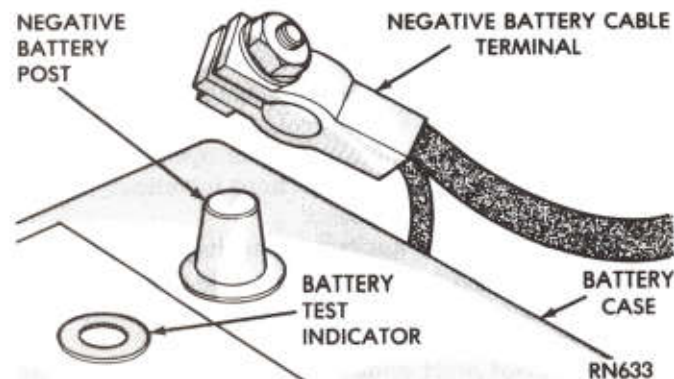

Fig. 5—Removing Negative Battery Cable
- (1) Before starting any tests make sure vehicle has a fully charged battery. Test and procedures on how to check for a fully charged battery are shown in "Battery" section of this manual.
- (2) Turn Off ignition switch.
- (3) Disconnect negative battery cable (Fig. 5).
- (4) Disconnect alternator output wire from alternator "Bat" terminal.
- (5) Connect a 0-100 amps minimum range scale D.C. test ammeter in series between alternator "Bat" terminal and disconnected alternator output wire. Connect ammeter Positive lead wire to alternator "Bat" terminal and Negative ammeter lead to disconnected alternator output wire.
- (6) Connect a 0-18 volt minimum range scale test Voltmeter between alternator "Bat" terminal and ground. Connect voltmeter Positive lead to alternator "Bat" terminal. Connect Negative lead of test voltmeter to a good ground.
- (7) Disconnect wiring harness connector from Electronic Voltage Regulator on vehicle (Fig. 5).